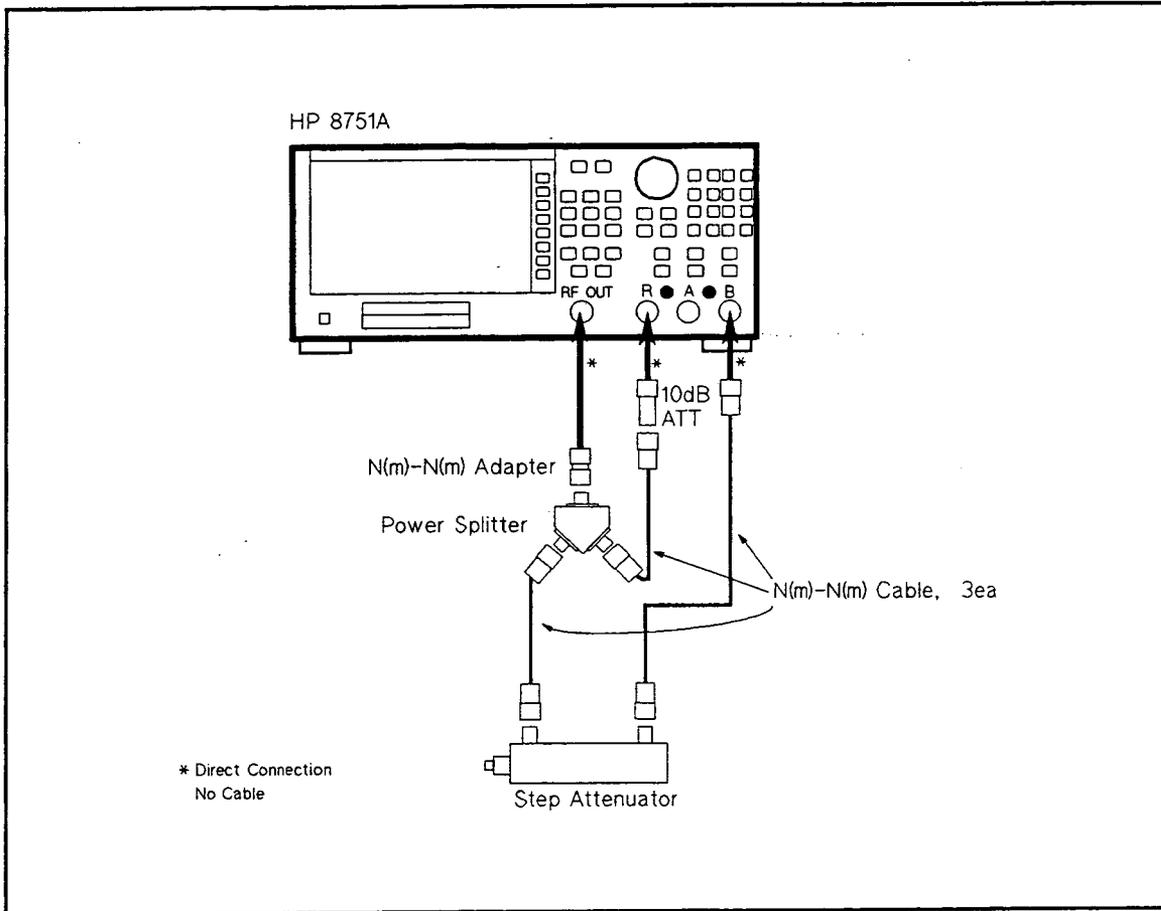

Figure 2-28. Magnitude Ratio/Phase Dynamic Accuracy Test Setup 8
- a. Change the HP 8751A connection as shown in Figure 2-28.